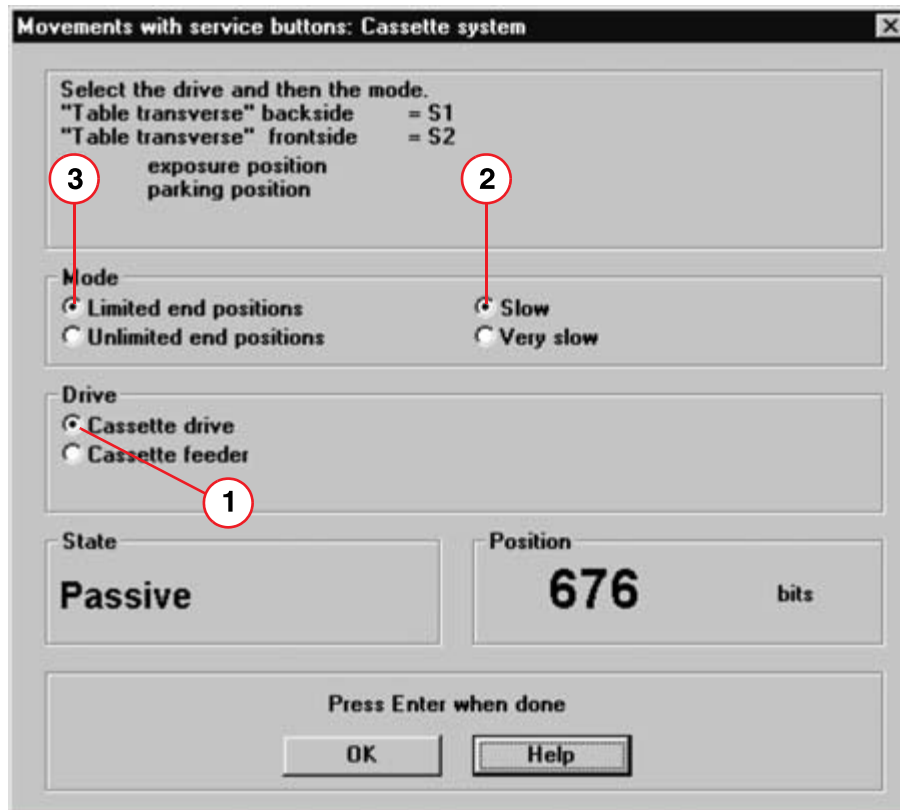

Fig. 100: Window "Movements with service button: Cassette system"
- Select **Execute** (The following window appears (Fig. 100 / p. 89)).
- Select **Cassette drive** (1/ Fig. 100 / p. 89).